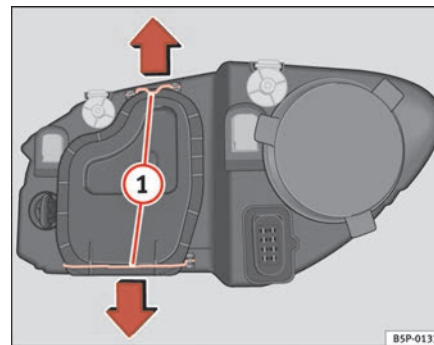

Fig. 184 Dipped head-lights
- Remove the loops ⇒ page 256, fig. 184 ① in the direction of the arrow and remove the cover.